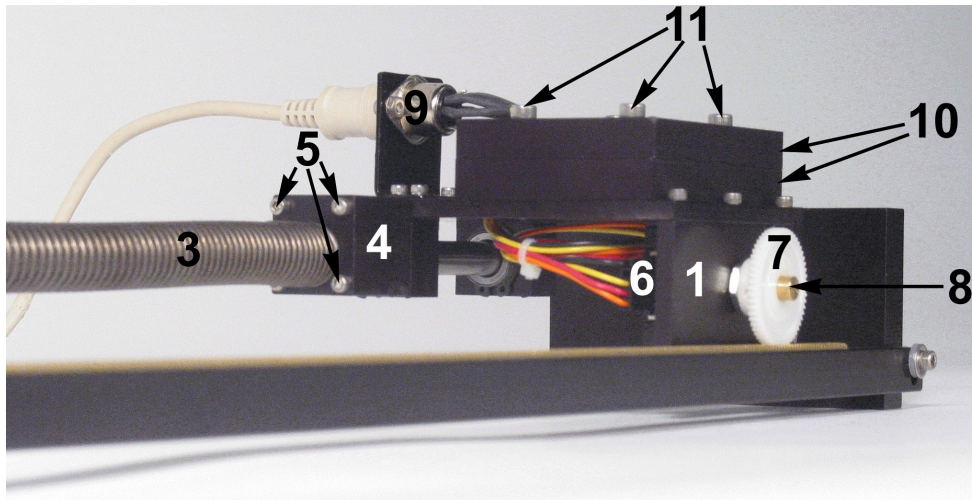
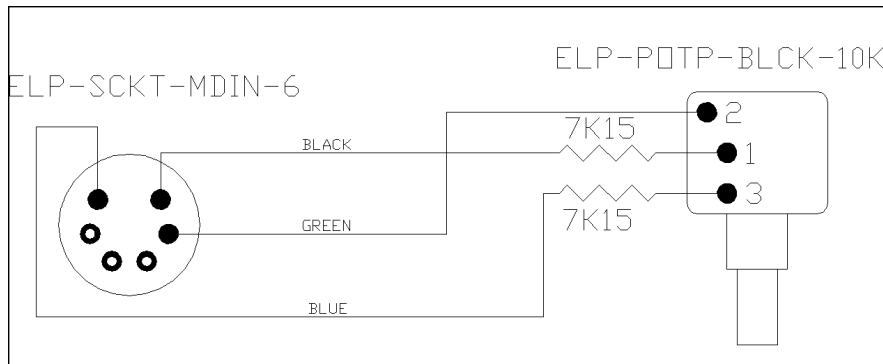
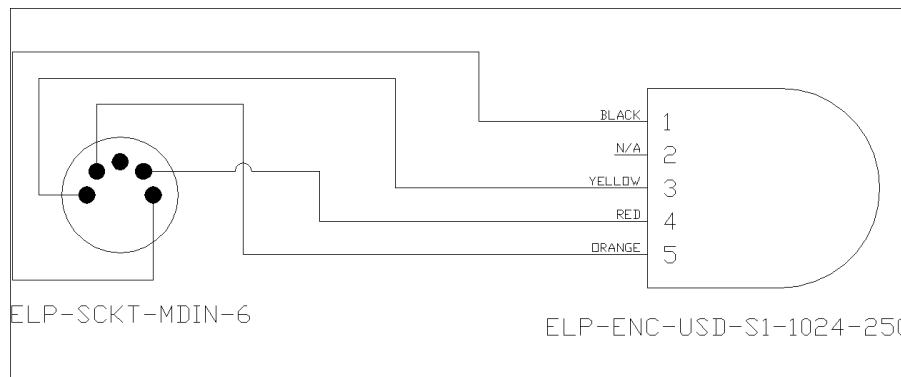

Figure 3 LFJC-E Nomenclature
Figure 5 Wiring Diagram of the LFJC Potentiometer
Figure 6 Wiring Diagram of the LFJC(-PEN)-E Encoder
Figures 3 and 4, below, depict the LFJC-E and LFJC-PEN-E modules, respectively.
As a component nomenclature, Table 2, below, provides a list of all the principal elements composing the LFJC(-PEN)(-E) systems. Each of these elements is located and identified, through a unique identification (ID) number, on both LFJC-E and LFJC-PEN-E systems as represented in Figures 3 and 4, above.
If the LFJC module is used (instead of the LFJC(-PEN)-E), the encoder depicted by component #6 in Figure 3 is replaced with a potentiometer to sense the spring-driven cart position. The LFJ cart position is sensed by a 10-turn black potentiometer, namely the **Vishay Spectrol model 534-1-1-103**. As illustrated by its wiring diagram in Figure 5, below, the LFJC potentiometer is connected to a  $\pm 12$  Volt DC power supply (e.g. from the Quanser
- Measure the voltage across the potentiometer. Prior to doing that, ensure that the potentiometer is powered with  $\pm 12VDC$  at the 6-pin-mini-DIN connector, as shown in Figure 5, above. You should observe  $\pm 12VDC$  at the potentiometer terminals 1 and 3. Moreover, if the voltage from the wiper does not change when you manually rotate the potentiometer shaft (measuring with, for example, a voltmeter or an oscilloscope), your potentiometer may need to be replaced. To obtain technical assistance, please refer to Section Obtaining Support on page 19 for information on contacting Quanser.
The LFJC-E has one optical encoder, which is used to measure the LFJC position, as represented in Figures 3, by component #6. The encoder measuring the LFJ cart linear position does so through a rack-pinion system. The encoder model mounted on the LFJC-E is a **US Digital S1 single-ended optical shaft encoder**. It offers a high resolution of 4096 counts per revolution (i.e. 1024 lines per revolution with two channels in quadrature). The complete specification sheet of the S1 optical shaft encoder is included in Appendix B.
The internal wiring diagram of the LFJC(-PEN)-E encoder(s) is depicted in Figure 6. The standard 5-pin DIN connector shown in Figure 6 is also pictured as components #9 and #15 in Figures 3 and 4.
- Step 3. Attach the linear spring square fitting (component #4 in Figures 3 and 4) to your IP01 or IP02 cart. To do so, fasten the set screws numbered 5 in Figures 3 and 4.
- Step 5. Mount the two additional weights (components #10 in Figures 3 and 4) on top of your LFJC(-PEN)(-E) system, if not already done. To that effect, fasten the set screws numbered 11 in Figures 3 and 4.
The LFJC potentiometer is wired to one 6-pin mini DIN socket, as represented in the wiring schematic in Figure 5.